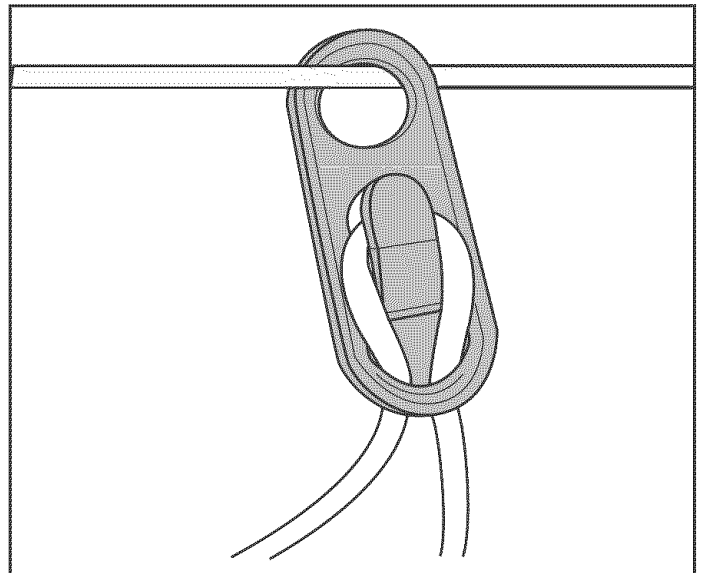

Fig. 4
3. Position the loop over the clip found on the cord retainer and pull down until the cord fits snugly into the clip (Fig. 4).